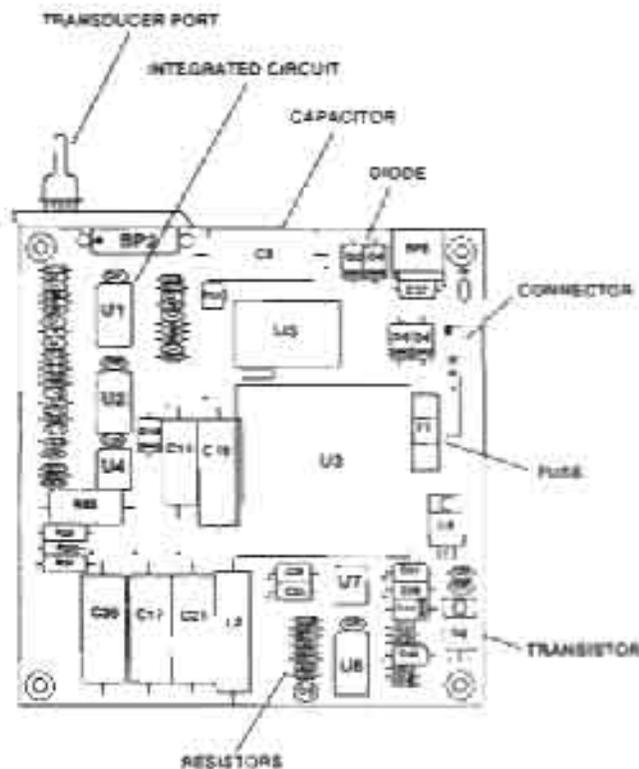

Figure 4-2. Analog/power supply PCB (model 750M)
(4) *Analog/power supply PCB (fig 4-2)*